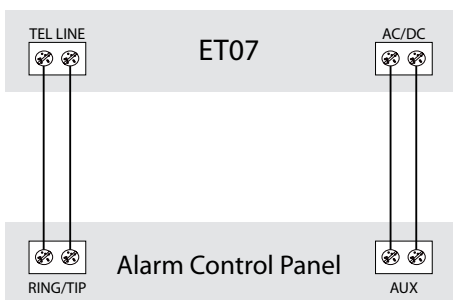

Fig. No. 2
4. Connect the circuit as shown in fig. no. 2 – connect telephone line output of the Alarm Control Panel (RING/TIP) to TEL LINE connectors of communicator ET07. In this case power supply is usually used as AUX output of Alarm Control Panel.